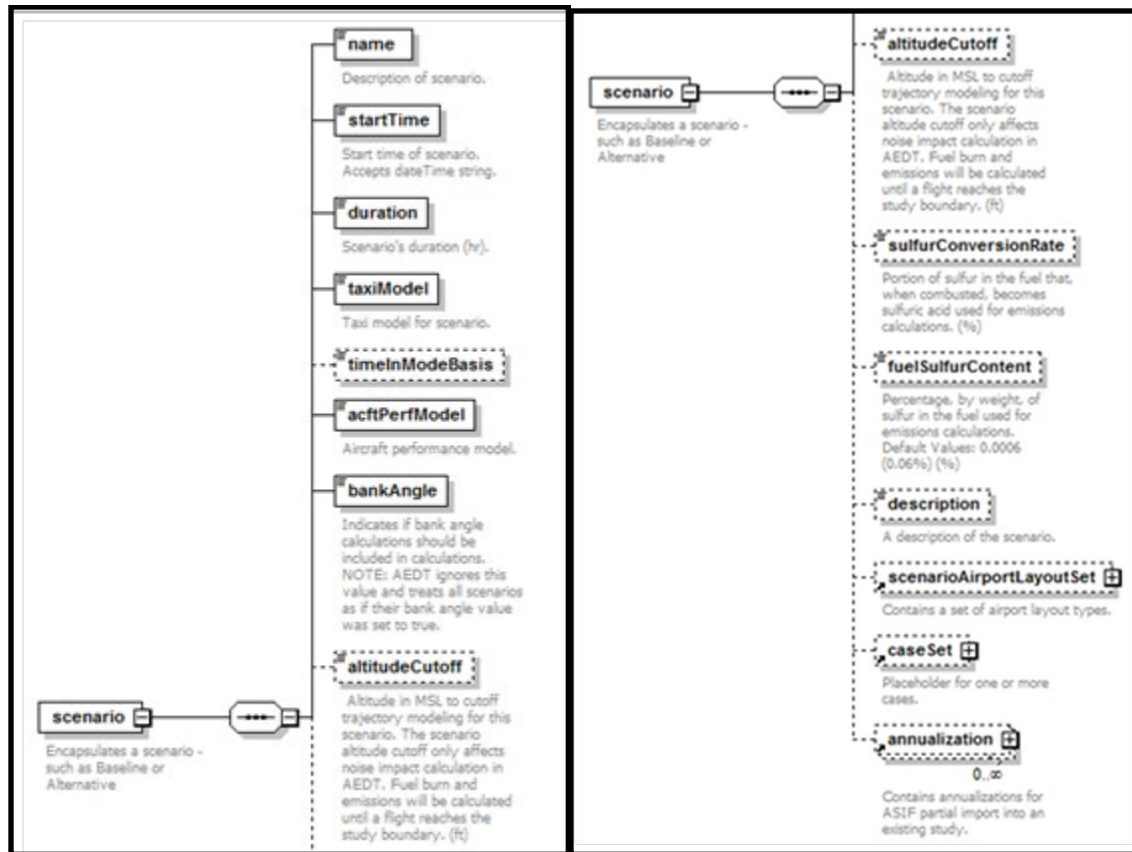

Figure 70. ASIF element – scenario
12. **AsifXml/study/scenario** (Figure 70):